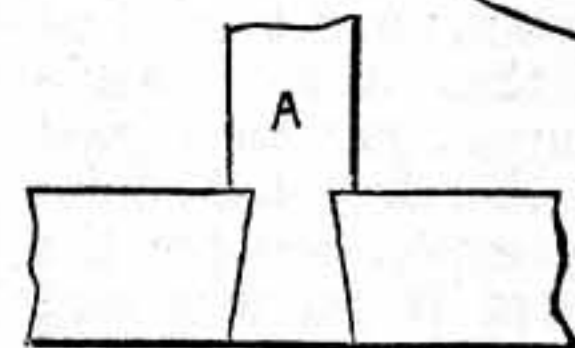

Fig. 7.—Dovetail Halving.
*Dovetail Halving.*—This joint (Fig. 7) is objected to by some writers, because when A shrinks it will depend for its support on the screw, nail, or bolt, as the case may be. Then the dovetail form will be of no assistance in strengthening it, but will be a source of weakness at the shoulder, and the more the joint is bevelled the weaker it will be.